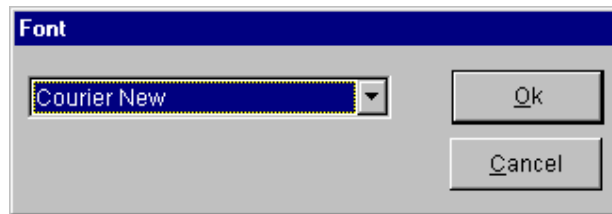

Fig. 3-3 Font selection dialog box
- (2) Select the menu [Screen]-[Font...]. When chosen (Enter key), the window in Fig. 3-3 will appear. Select the font from the combo box, and choose with the [Enter] key.